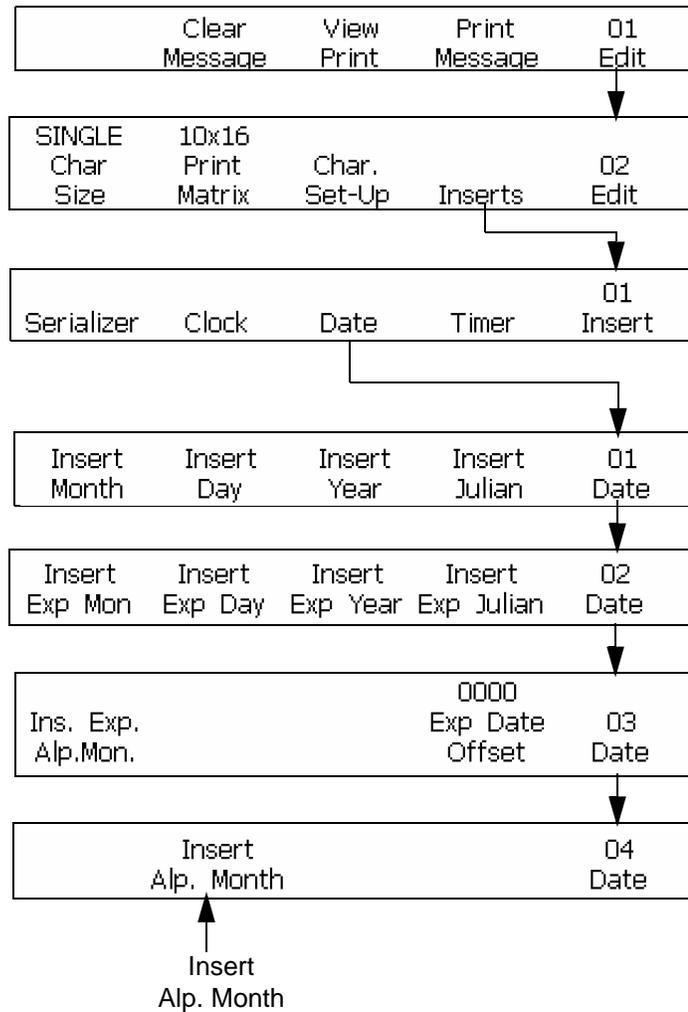

Figure 6-24: Accessing Frame <04 Date>
- 1 Begin in the Frame <04 Date>. Refer to Figure 6-24 on page 6-31.